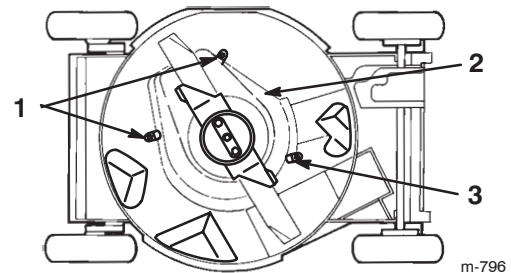

Figure 27
6. Loosen the tabs that secure the BBC shield to the deck by loosening the nuts or the bolts on the tabs (Fig. 27). Rotate the tabs 180° to move them out of the way.